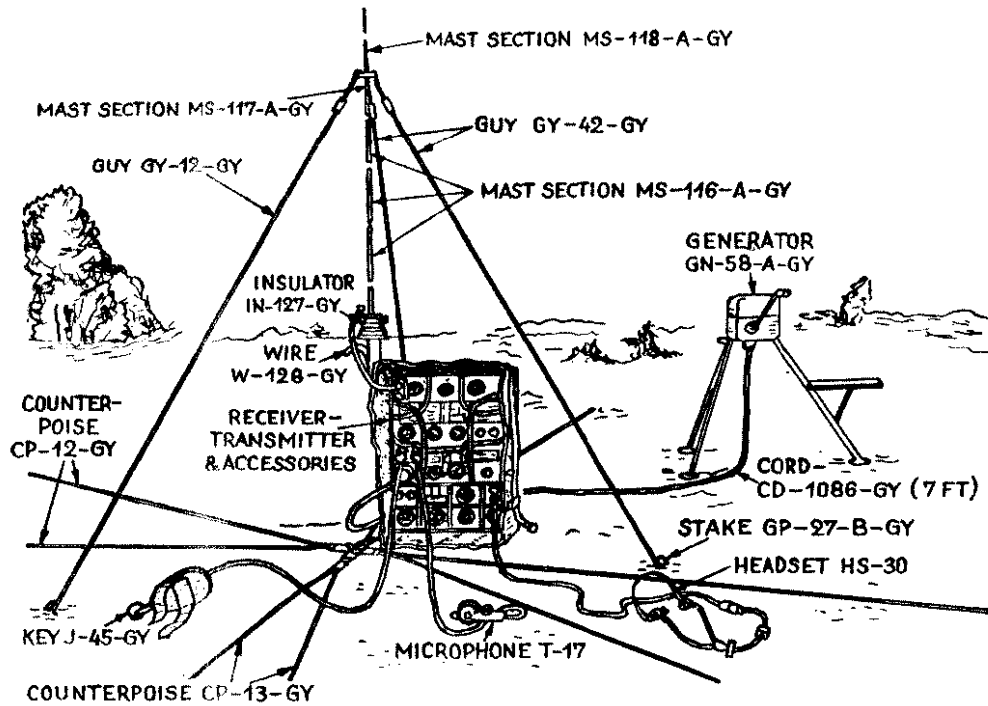

Figure 35. Radio set AN/GRC-9-GY set up for normal field use.
h. Slip Stakes GP-27-B-GY through the S hooks attached to the ends of the guy cords and drive the stakes into the ground at equally spaced points around the set to hold the mast erect (fig. 35).